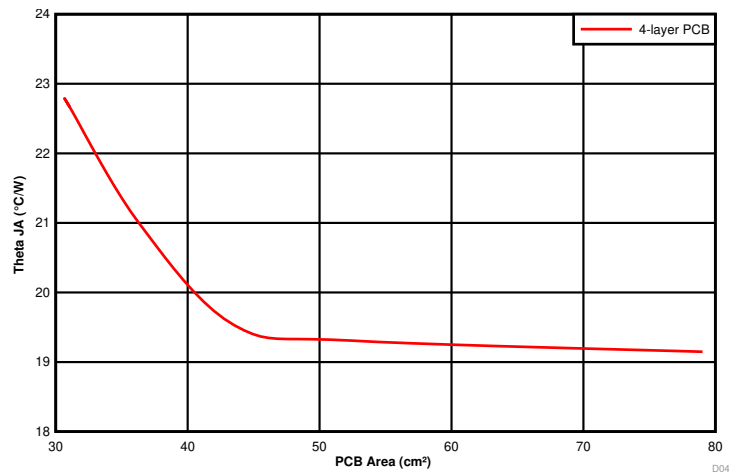

Figure 47. $R_{\theta JA}$ versus PCB Area (per Layer)
The amount of PCB copper affects the thermal performance of the device. Figure 47 shows the effects of copper area on the junction-to-ambient thermal resistance ($R_{\theta JA}$) of the TPSM53604. The junction-to-ambient thermal resistance is plotted for a 4-layer PCB with PCB area from 30 cm² to 80 cm².
3. Reference Figure 47 to determine the minimum required PCB area for the application conditions.